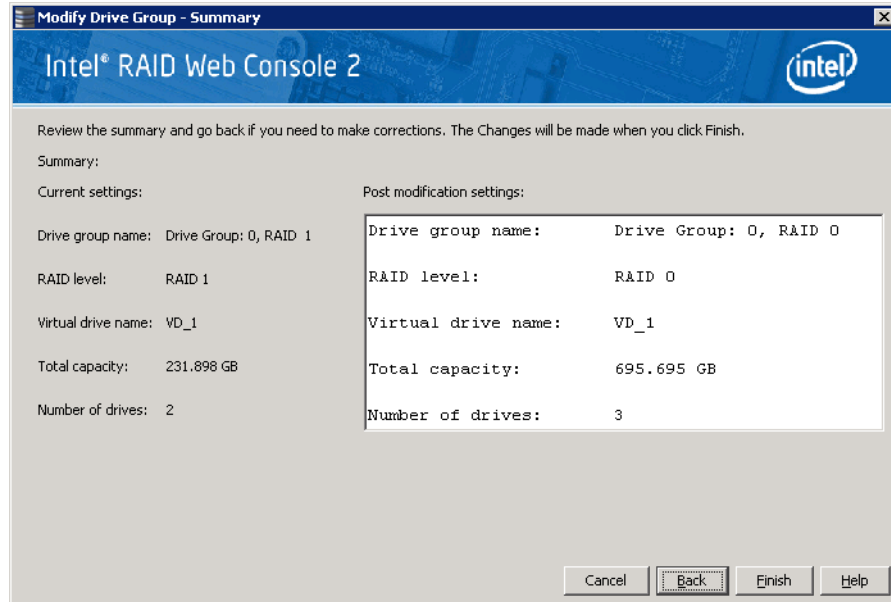

Figure 75. Changing RAID Level
4. When you are finished removing disk drives, click **Next**. The next screen displays, which allows you to review the summary and go back if you need to make corrections as shown in Figure 75.